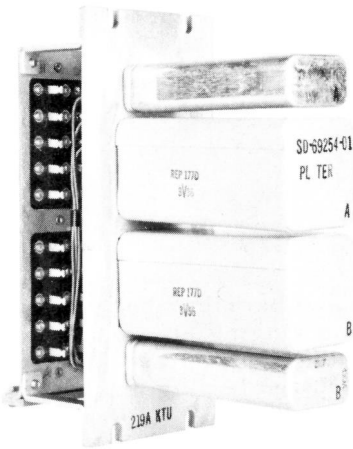
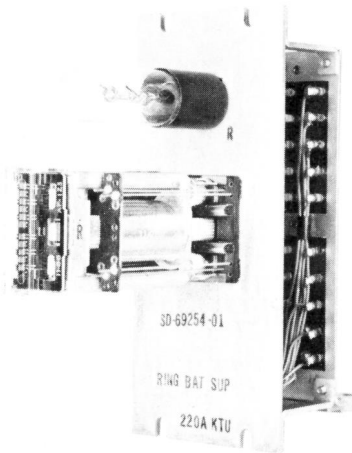
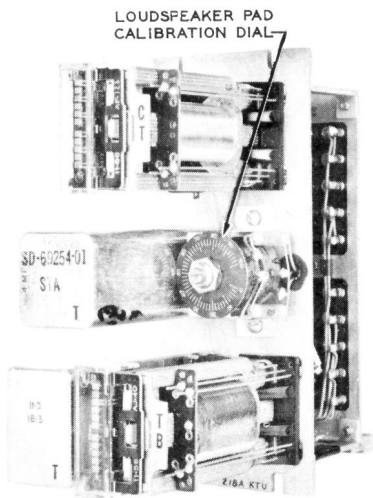
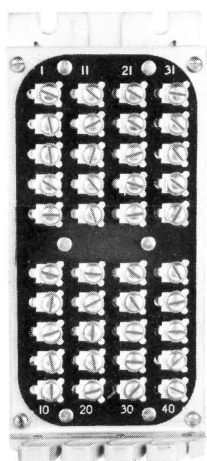

Fig. 1 - 219A Key Telephone Unit
Fig. 3 - 220A Key Telephone Unit
Fig. 2 - 218A Key Telephone Unit
Fig. 4 - 218A, 219A, or 220A Key Telephone Unit (Rear View)
4.01 The 219A key telephone unit (see Fig. 1) provides two repeating coils and two capacitors, which may be arranged to terminate the sending and receiving halves of a 4-wire line. When a subscriber set is used, one of the capacitors is used between halves of the line side of the associated repeating coil to prevent shunting of the ringer. A grounded or metallic simplex may be derived for control of a central office switching function. For use on 2-wire lines, the 219A key telephone unit may be used for two such lines.
4.02 The 218A key telephone unit (see Fig. 2) provides a station termination. As many as six may be bridged on a line in 4-wire service. An induction coil is provided to match the transmitter impedance. A battery feed relay, under control of the head or handset push-to-talk key, removes an idle circuit termination
4.03 The 220A key telephone unit (see Fig. 3) provides a resistance lamp and a relay. It may be used to apply a 20-cycle ringing current to a line, or to control an emergency battery supply. When a single loudspeaker is associated with several adjacent stations on the same line, the loudspeaker leads may be carried
The 218A, 219A, and the 220A key telephone units are 3-1/32 inches wide overall and 6-15/16 inches high overall. They utilize wire spring relays and each key telephone unit is provided with legs projecting toward the rear, on which is mounted a 40-terminal panel arranged for screw connections (see Fig. 4). These units are designed to mount directly in the 6-plate cabinet, and by the use of suitable mounting bars in 11-plate, 18-plate, and larger cabinets, as well as relay racks.
4-WIRE TOLL LINE (FIG. 2 AND FIG. A, B, C, OR D, AND FIG. G)
7.02 Fig. 2, with Fig. A, B, C, or D, and Fig. G, provides a 4-wire toll line termination arranged for an impedance step-down ratio of 12 to 1, which permits as many as six bridged stations with a minimum transmission variation. Fig. A, B, C, or D permits simplex signaling, central office switching, and/or outgoing 20-cycle ringing.
2-WIRE TOLL LINE (FIG. 3 AND FIG. E OR F)
7.03 Fig. 3 and Fig. E or F provide a 2-wire toll line termination, which will match the line impedance to one main station. Fig. E or F permits simplex control of central office switching or outgoing 20-cycle ringing.
STATION CIRCUIT - 4-WIRE TOLL STATION (FIGS. 1 AND 2 AND FIG. 7 OR R) (FIG. 1 USES Z WIRING)
7.04 Fig. 2 provides a low impedance transmitting and receiving circuit, on which as many as six Figs. 1 may be bridged. Transmitting leads TT and TR connect to the T induction coil, which
provides a further impedance reduction to match the head or handset transmitter unit. The receiving leads RT and RR connect through the normal CT relay to the loudspeaker (Fig. 7) or to an idle circuit termination (Fig. R). Operation of the talk key (Fig. 9) or switchhook contacts (Fig. 8) operates the CT relay (Fig. 1), which transfers the receiving circuit from the loudspeaker or idle circuit termination to the head or handset receiver. Depressing the push-to-talk button on the handset operates the TB relay, which removes a short circuit from the transmitter, and short circuits the idle circuit terminating resistance (F).
2-WIRE TOLL LINE STATION (FIGS. 1 AND 3 AND FIG. 7 OR R) FIG. 1 USES Y WIRING)
7.05 Fig. 3 matches the impedance of a 2-wire toll line to one Fig. 1. For line impedances between 500 and 800 ohms, M wiring should be used. For line impedances between 800 and 1500 ohms, N wiring should be used. Fig. 3 may be used to provide service for two 2-wire toll lines. The RT and RR leads connect through the normal CT relay to the loudspeaker (Fig. 7) or the idle circuit termination (Fig. R). Operation of the talk key (Fig. 9) or switchhook contacts (Fig. 8) operates the CT relay, connecting the RT and RR leads to the induction coil (T), which in turn connects to the head or handset transmitter and receiver. Depressing the push-to-talk button on the head or handset operates the TB relay, which removes a short circuit from the transmitter and short circuits the idle circuit termination resistance (F).
7.07 VOICE CALLING (FIGS. 1, 7, 8, 9, AND FIG. R)
- Loudspeaker per Station - Each station (Fig. 1) may be equipped
with a loudspeaker for voice calling. When the switchhook contacts (Fig. 8) or the talk key (Fig. 9) is operated, the CT relay (Fig. 1) operates and transfers the receiving circuit from the loudspeaker to the head or hand-set receiver or to the induction coil (T).
Control of Loudspeaker from Several Stations - One Fig. 14 is required for each Fig. 1 equipped with loudspeaker. Figs. 1 not equipped with loudspeaker use V wiring and Fig. R. Figs. 8 and 9 use V apparatus. When a main, and one or more extension stations are adjacent to each other, only one station need be equipped with a loudspeaker. Operation of the CT relay in the main station cuts off the loudspeaker by transferring the receiving circuit to the telephone receiver. Operation of the CT relay in an extension station operates the R relay in Fig. 14, which substitutes a resistive termination for the loudspeaker.
600- AND 1500-CYCLE SELECTIVE SIGNALING (FIGS. 1, 2, 4, AND FIG. G)
7.09 The outgoing 600- and 1500-cycle selective signaling equipment may be connected to the transmitting line of a 4-wire toll line in place of Fig. G. Fig. 4, provides the dial required to control the selective signaling equipment. Ground for the dial is furnished through contacts of the CT relay (Fig. 1), to prevent interference from other multiple stations. The incoming 600- and 1500-cycle selective signaling equipment may be connected by bridging on the RT and RR leads (Fig. 2).